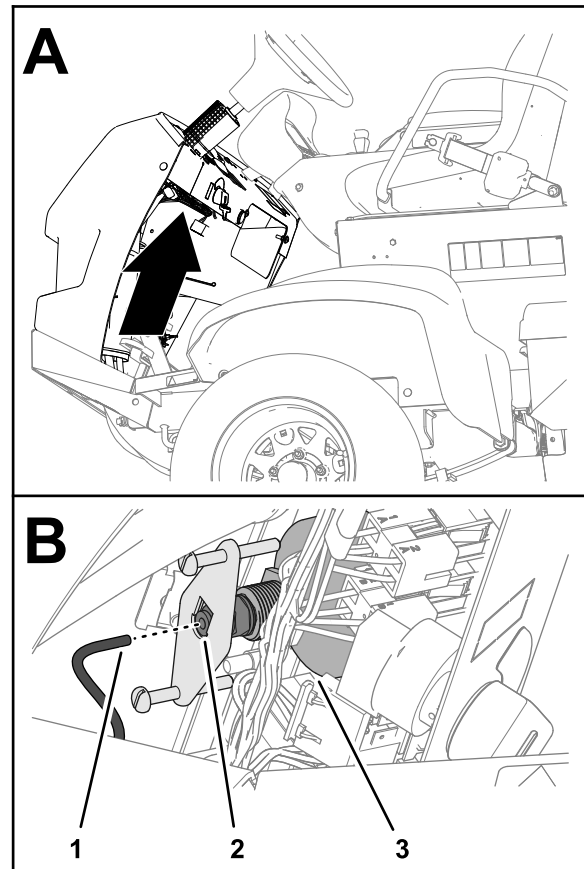

Figure 137
5. Remove the tube from the back of the pressure gauge and place the end of the tube into a container (Figure 137).